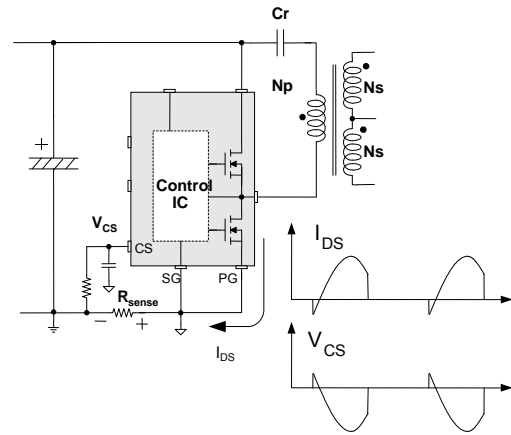

Figure 27. Half-Wave Sensing
**8.1 Resistive Sensing Method:** The IC can sense drain current as a negative voltage, as shown in Figure 27 and Figure 28. Half-wave sensing allows low power dissipation in the sensing resistor; while full-wave sensing has less switching noise in the sensing signal. For a time constant range for the filter,  $3/100 \sim 1/10$  of the operating frequency is reasonable.